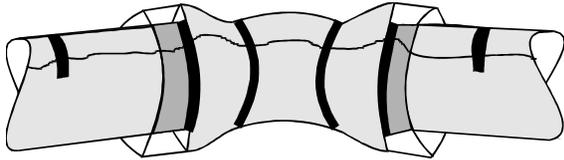

Figure 9
16. Draw the short length of sleeving over the fitting with an equal amount projecting beyond each socket face. Pull this sleeve tightly around the body of the bend and fold the surplus neatly, taping around the circumference behind each socket (Figure 9). On large diameter fittings a further turn of tape around the centre of the bend may be beneficial in assisting the sleeving to achieve a snug fit.